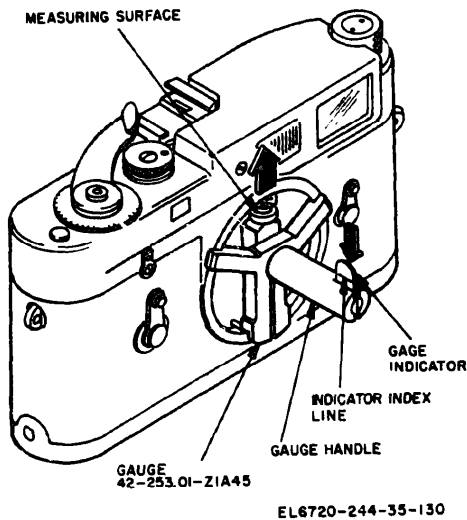

Figure 6-13. Range-viewfinder roller arm height gauge check.
(2) Auto collimator adapter 42-582.01-Z1W4-5 (fig. 6-13).
(1) Remove the hinged back from the camera
(2) Set the shutter speed dial to B. Lock the shutter in the open position with the threaded holding pin.
(3) Place the camera on the gauge block with mirror surface, and position the outer film guides on the mirror surface (fig. 6-13).
(4) Place the auto collimator with adapter on the lens mounting flange (fig. 6-13).
(5) Check for parallelism. The reticle reflection should coincide with the collimator reticle. A deviation of one-half line thickness is the permissible tolerance.
(10) Gauge 42-253.01-Z1A45 (fig. 6-13).
(a) Place gauge 42-253.01-Z1845 in the lens mounting flange with its measuring surface under the range-viewfinder roller arm (fig. 6-13).